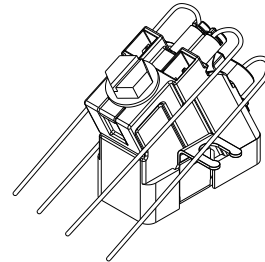

Figure 5
1. Feeder and subscriber wires must be segregated between the upper and lower ports to facilitate isolation testing (See Figure 5).